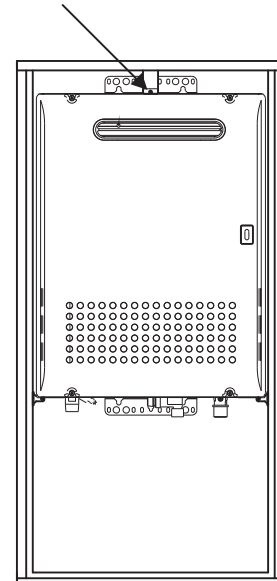

Figure 3: Location of top mounting bracket.
- Second, insert the water heater into the box by sliding the top heater bracket over the previously installed mounting screw as shown in Figure 3.